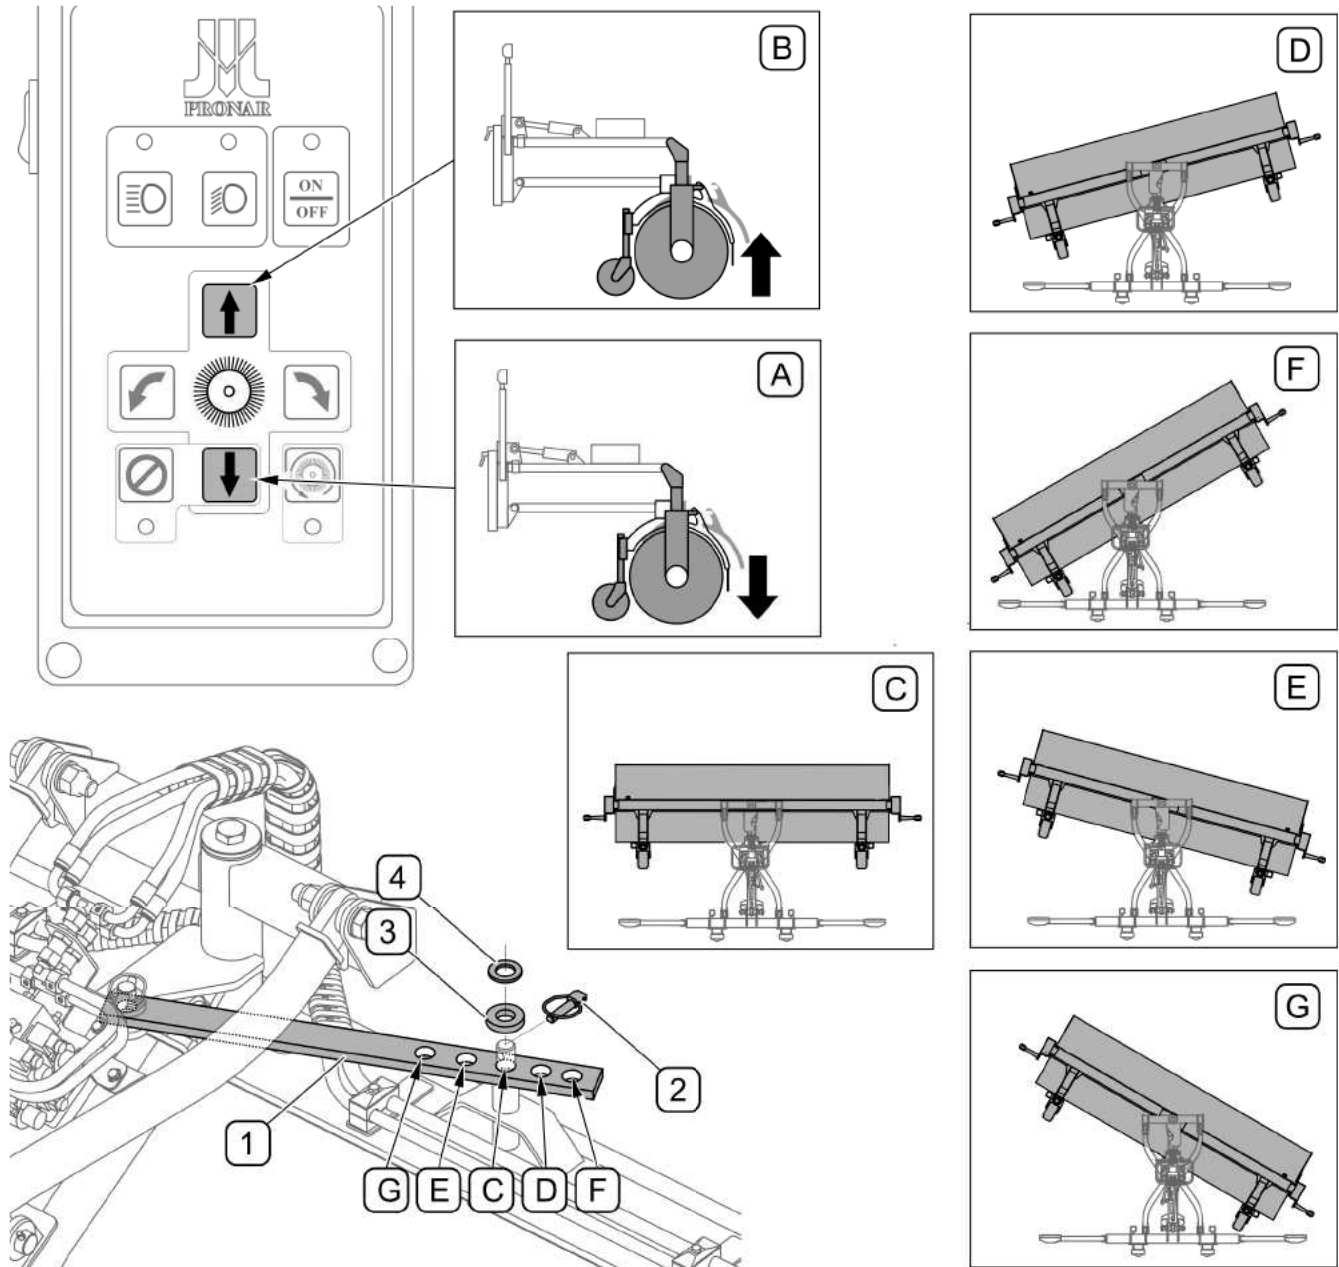

FIG. 4.14 Changing the sweeper's working position (ZM-S25 sweeper with mechanical brush turning)
5 working angles of the brush can be set in the sweeper equipped with mechanical brush turning system (FIG. 4.14).
The brush with mechanical turning system is raised and lowered using the control panel. Brush working angle is changed by means of adjusting strip (1) with openings to be secured on the brush frame pin (FIG. 4.14)
To change the brush (FIG. 4.14) working angle: